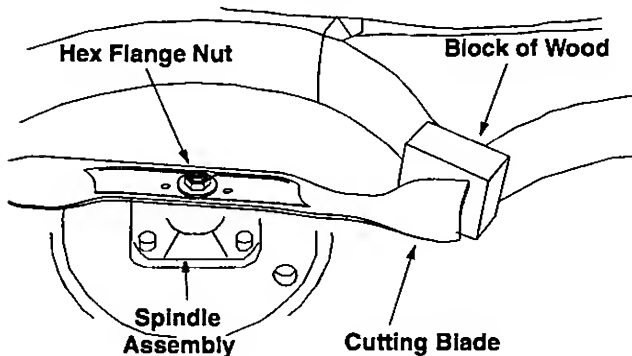

Figure 20
- Place a block of wood between the center deck housing baffle and the cutting blade to act as a stabilizer. See Figure 20.
- Use a 15/16" wrench to remove the hex flange nut that secures the blade to the spindle assembly. See Figure 20.